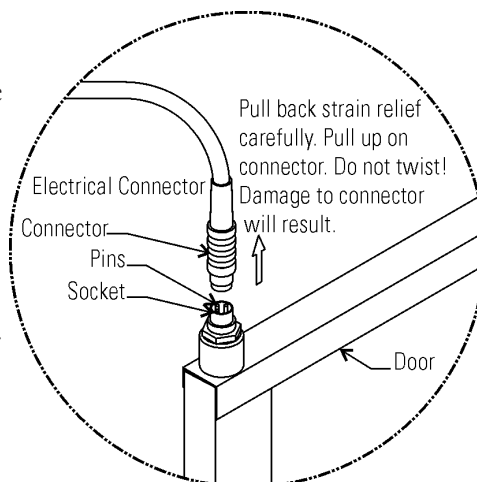

Figure 5-5. Connector
8. Refer to Figure 5-5. The heater wiring connector is of yellow rubber which should be visible when the strain relief is moved upward as shown. See connector manufacturer's instructions in Section 11 of this manual.